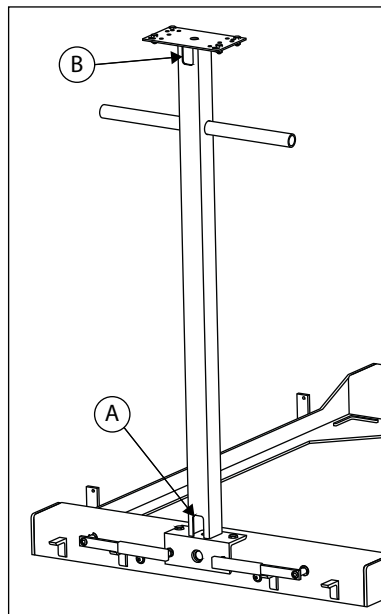

Figure 2-8. Wiring Hole Locations
1. Insert the loose end of the junction box cable into hole A (see Figure 2-8).